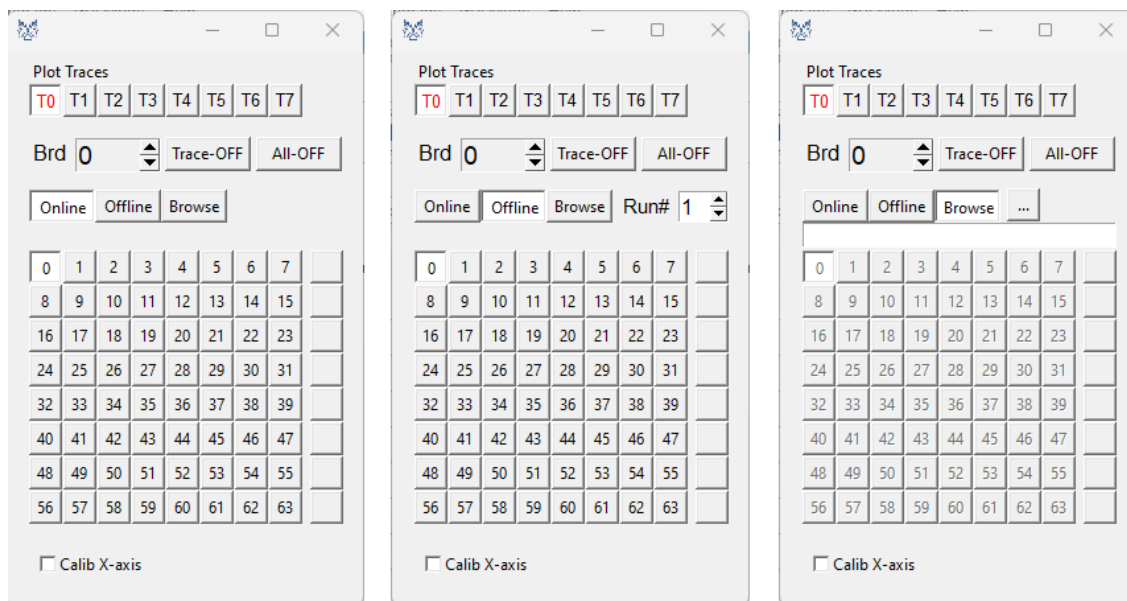

Fig. 3.6: Plot Traces window in default mode (on the left), with the Offline button enabled (in the middle) and with the Browse button enabled (on the right).
The Plot Traces command  allows the user to access the Plot Traces window (see **Fig. 3.6**) to manage the traces to be visualized in the gnuplot window. A maximum of 8 traces from different channels can be visualized at the same time.
- **Run#**: The command is active only when the Offline option is enabled in the Plot Traces window (see **Fig. 3.6**) and allows the user to select the ID of a previously saved run whose spectrum need to be visualized.